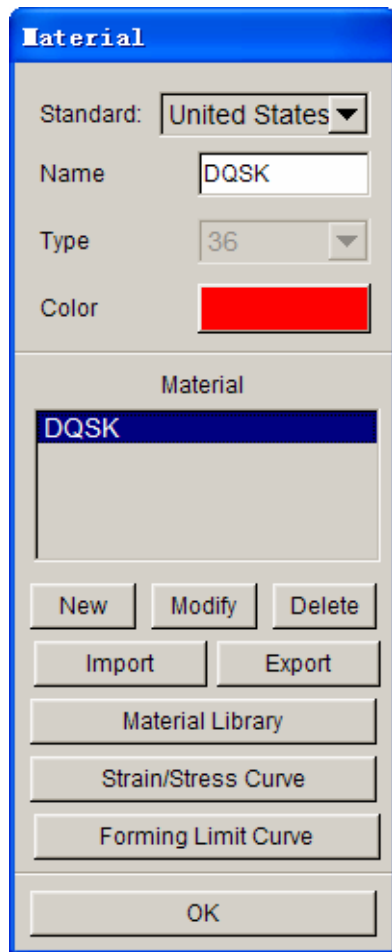

Figure 2.26: Material dialog box
- 7) Click **OK** button to return to Material dialog box. The selected material type in the last operation is added to the Material list (shown in Figure 2.26).